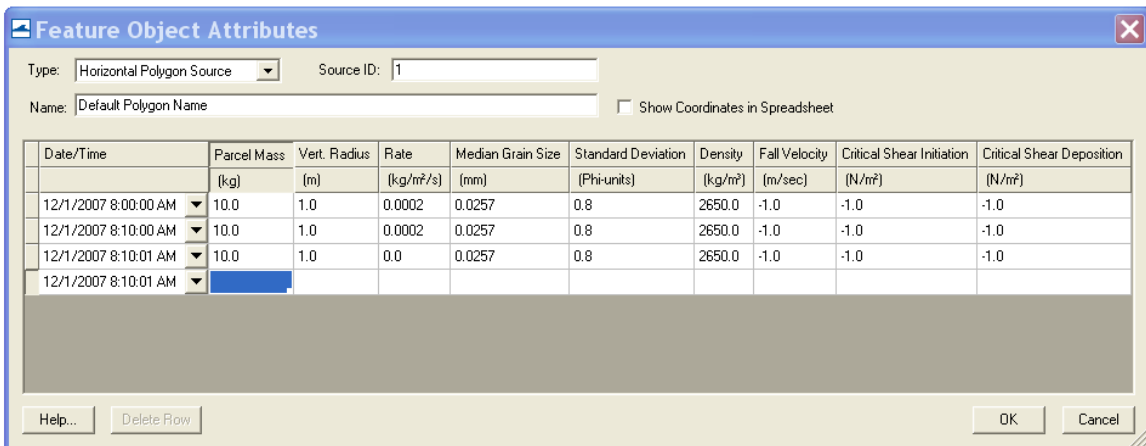

Figure 5. Defining the particle release scenario from the area source.
5. Select *Horizontal Polygon Source* in the *Type* (Figure 5),
6. Specify *Date/Time* for the particle release, *Parcel Mass (kg)*, released mass *Rate (kg/m²/s)*, and *Median Grain Size (mm)* of released particles (Figure 5),